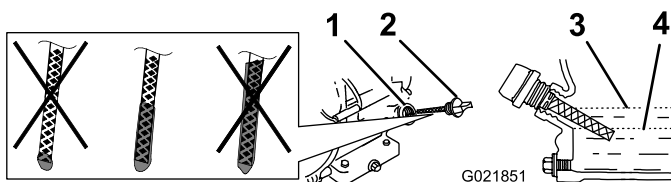

Figure 10
6. Insert the dipstick fully into the fill hole, but **do not screw it in** (Figure 10).
7. Remove the dipstick again and look at the end. If the engine oil level is low, slowly pour only enough oil into the fill hole to raise the level to the Full mark on the dipstick (Figure 10).
4. Clean around the dipstick (Figure 10) so that dirt cannot fall into the fill hole and damage the engine.